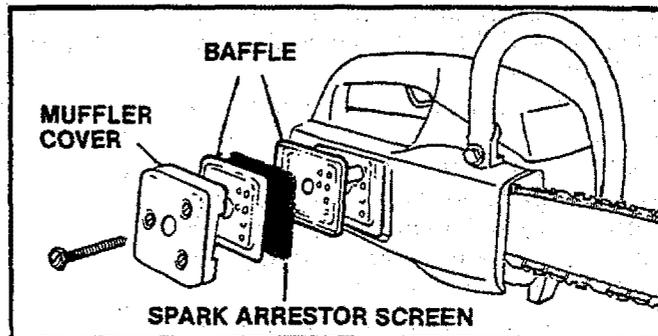

Figure 43
- b. Remove the muffler, baffles, and screen. Figure 43.